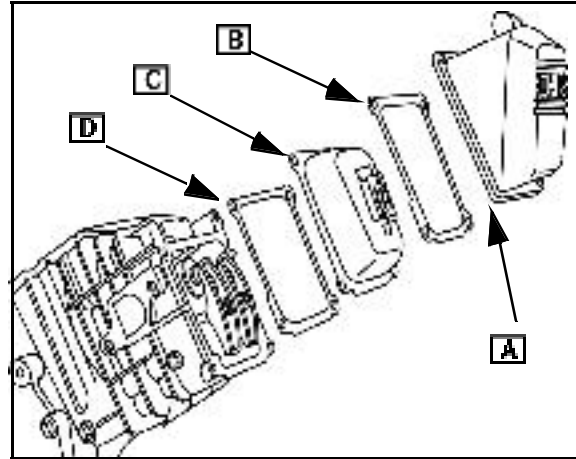

Fig. 27
- Remove four screws that hold valve cover (A) and gasket (B).
- Remove valve cover. Breather assembly (C) and gasket (D) Fig. 27 will come off with valve cover.
- Install gasket (D), breather assembly (C), gasket (B), and valve cover ([A] Fig. 27) to cylinder head.